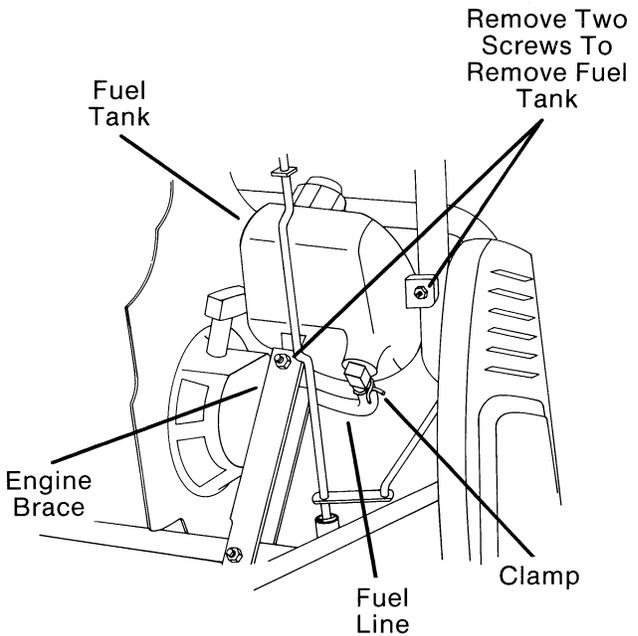

FIG. 16
- C. Squeeze fuel line clamp together at fuel tank and disconnect fuel line from tank. (Fig. 16)
- D. Remove two screws and locknuts, one on the right side and one on the bottom of the fuel tank, to remove the tank. (Fig. 16)